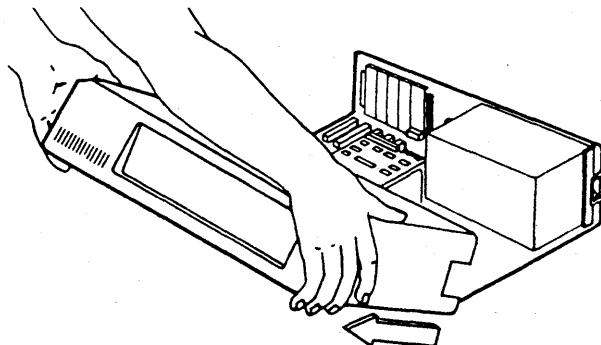

Figure 3: Removing the Cover
3. Grasp the cover in both hands and slide it forward and off as shown in Figure 3: